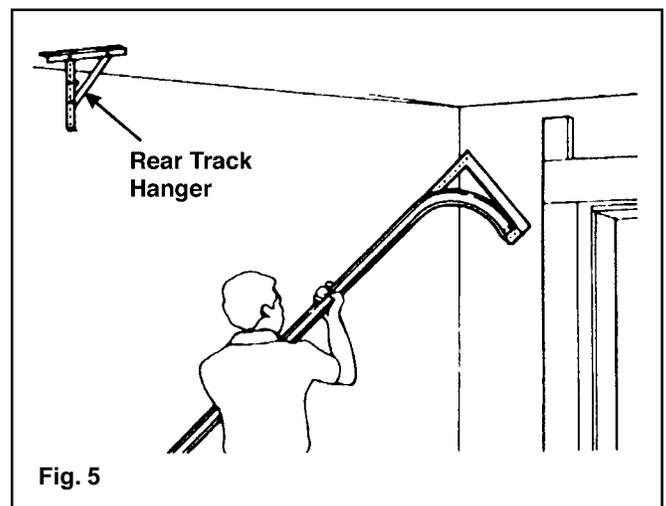

Fig. 5
**Step 3:** After all sections have been removed from the opening, detach all remaining track and hardware from the jambs. The hangers that attach the rear ends of the overhead track to the ceiling (called rear track hangers) in many cases can be reused on the new door if made of 13 gauge ( $\frac{3}{32}$ " ) or heavier steel and is not loose or unstable. (FIG. 5)